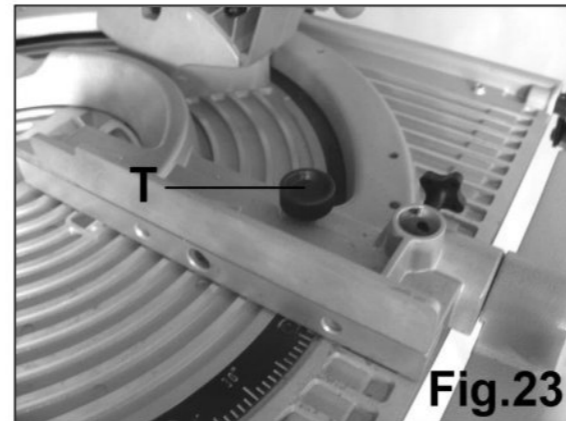

Fig.23
2. To adjust the rotation of the saw head, loosen the thumbscrew (T) **Fig. 23**, then turn the saw head from 0° to 45° to the left or to the right. Then, tighten this screw.